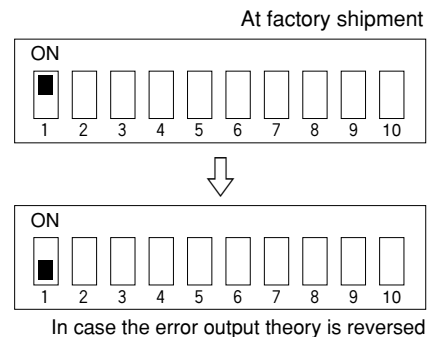

Fig.20
- ① Turn the Power Switch OFF
- ② Remove the top cover from the control unit.
- ③ Turn off No.1 dip switch. DO NOT change any other dip switches.(Fig.20)
- ④ Reinstall the top cover.